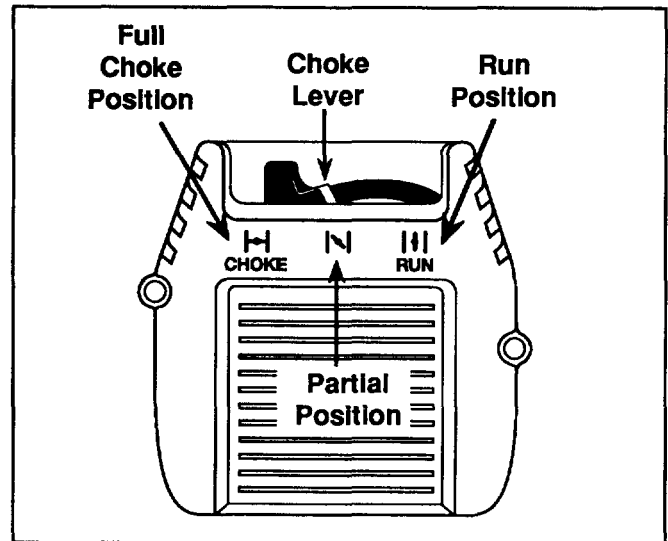
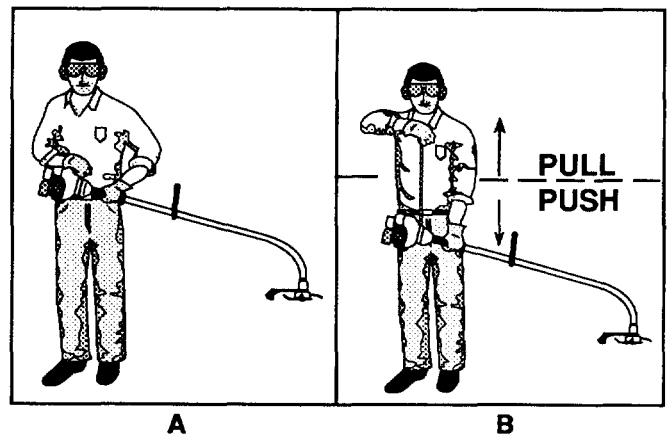

Fig. 7
Fig. 8
4. **MOVE THE CHOKE LEVER TO THE "FULL CHOKE" POSITION** (Fig. 7).
5. **HOLD THE UNIT IN THE STARTING POSITION WITH THE CUTTING HEAD AWAY FROM YOU.** (Fig. 8-A).
7. **PULL THE STARTER ROPE BRISKLY** (Fig. 8-B) until the engine sounds like it wants to run (normally 2 to 5 pulls).
8. **MOVE THE CHOKE LEVER IN THE "PARTIAL" POSITION** (Fig. 7). Pull the starter rope briskly 1 to 3 times to start the engine (Fig. 8-B).
10. After the engine warms up for 5 to 10 seconds, **MOVE THE CHOKE LEVER TO THE "RUN" POSITION** (Fig. 7).